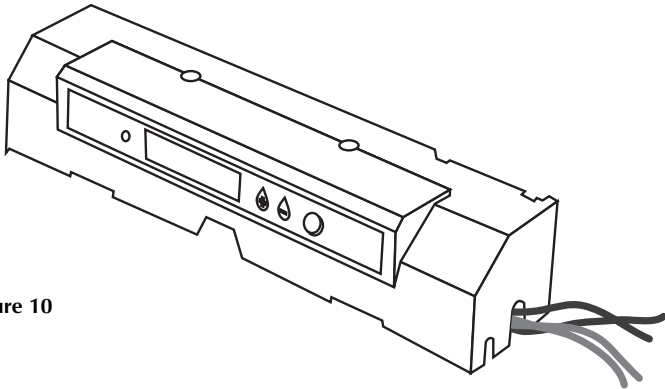

Figure 10
- Gently re-direct the two red wires exiting the right hand side of the digital humidistat top console so that they exit the top console from the left hand side, same side as the two black wires (fig. 10)